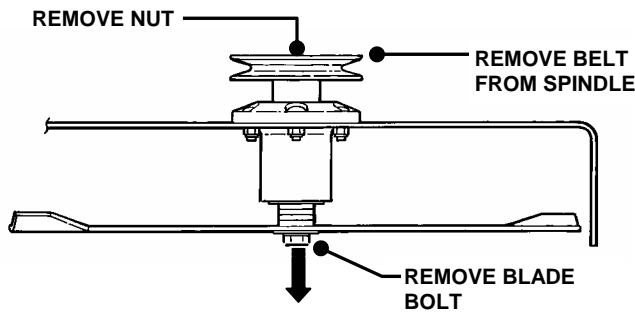

FIGURE 5.18
1. Remove belt. Loosen blade nut and remove. Allow blade bolt, washer, blade and four spacers to drop down out of the spindle housing. See Figure 5.18.